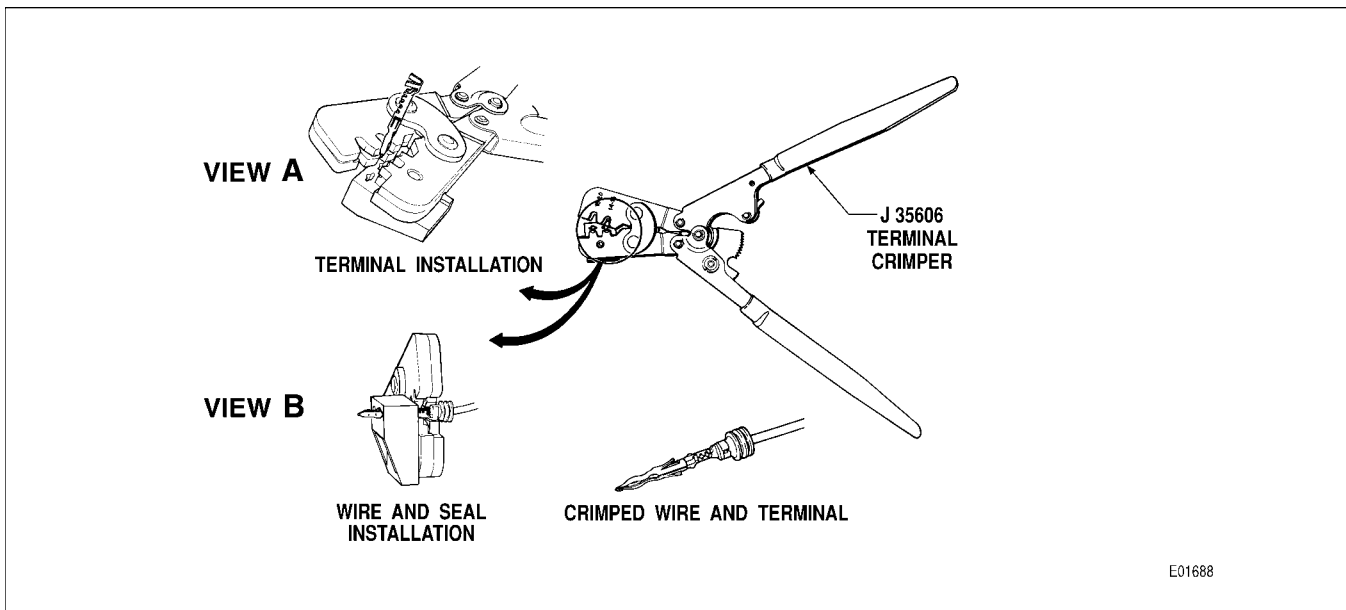

Figure C-6. Terminal Crimping With Tool J 35606
3. Insert terminal into crimping tool J 35606 (Figure C-6, View A), opening marked 18-20.
6. Slide the wire seal to the edge of the insulation and insert the wire and seal into the terminal (Figure C-6, View B).